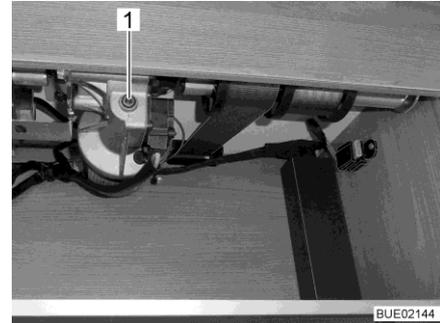

Fig. 149 Access to drive
- Insert the crank provided or an Allen wrench into the accommodation on the motor (Fig. 149,1).